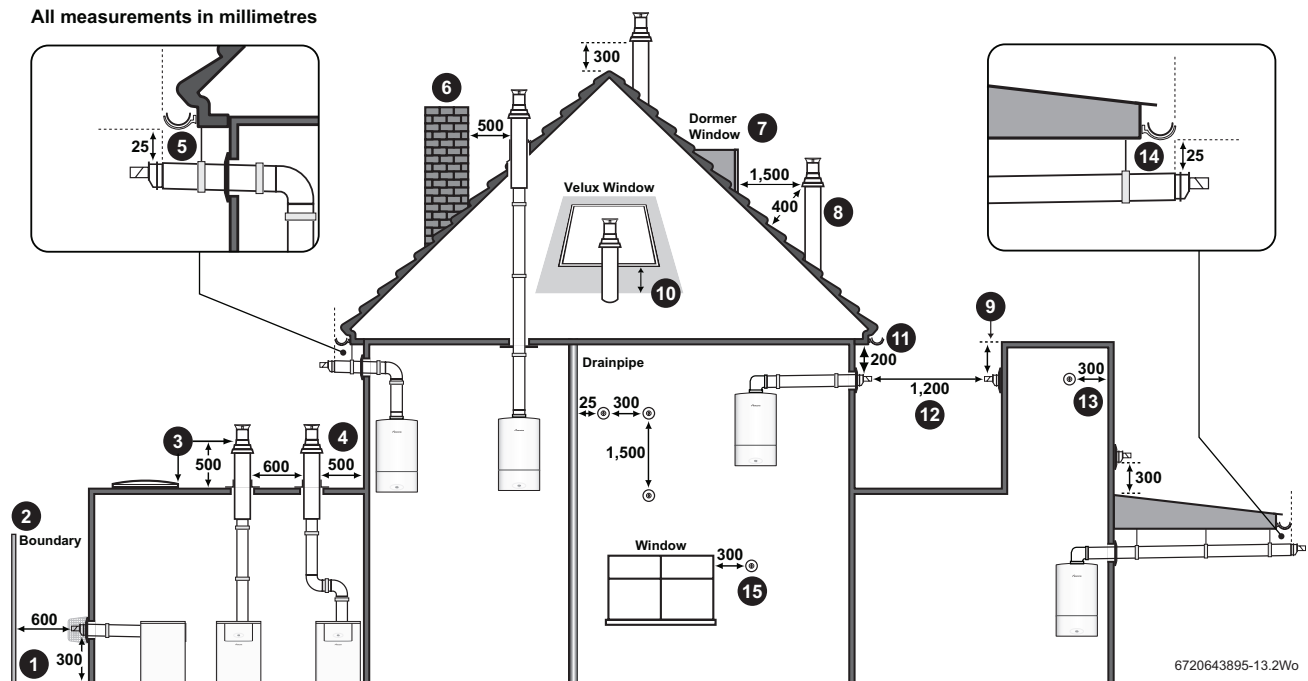

Fig. 20 Flue terminal positions
- ▶ Refer to figure 20 for all concentric flue terminal positions unless the flue position is specified on the figure above “Plume terminal positions”.